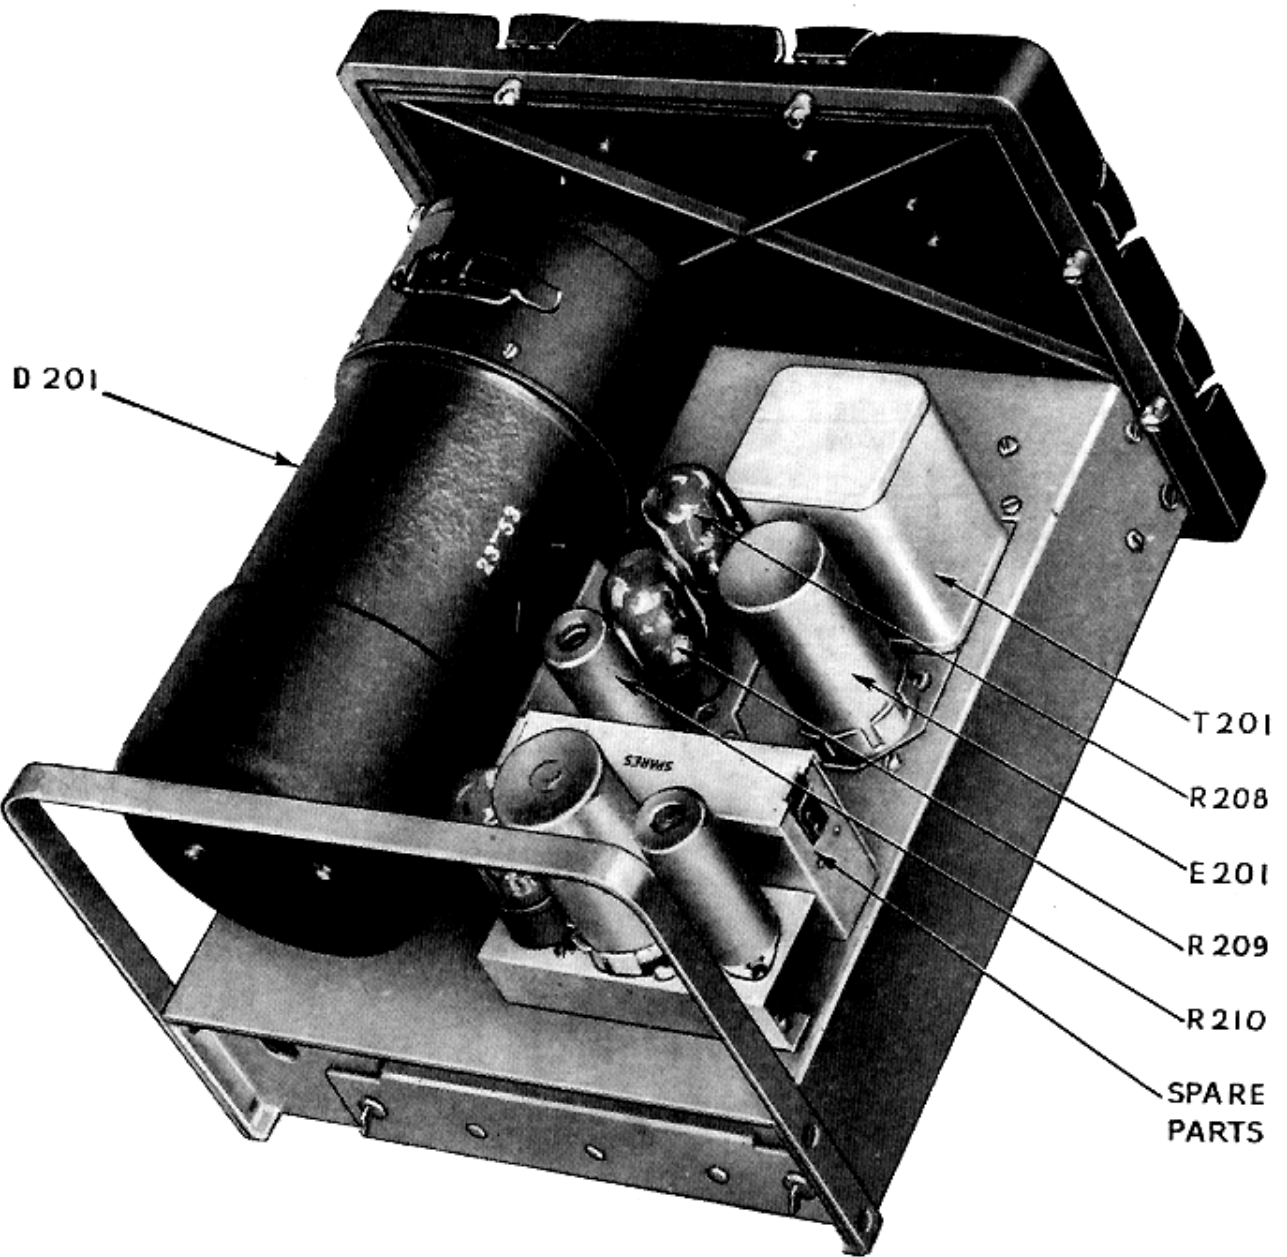

Figure 122.1. Dynamotor-Power Supply DY-88/GRC-9, cover removed, top view.
(1) Vibrator E201 and ballast tubes R208, R209, and R210 are located on the upper side of the chassis (fig. 122.1). E201, R208, and R209 can be removed without further disassembly. R210 is shielded by E207. The shield is removed by twisting it in a counter-clockwise direction and then pulling it straight up off the tube. R210 then can be removed without difficulty.
11. No voltage at terminals 22, 23, and 33. Control (E) in STAND BY position.	11a. K203 relay coil open. b. Ballast resistor R210 is open.	11a. Check K203 coil for continuity. b. Replace ballast resistor R210.
12. No voltage at terminals 20, 32, and 34. Control (E) in SEND position. Dynamotor does not run.	12a. Fuse F201 is open. b. K201 relay coil open. c. Contacts 11 and 12 of K202 are open. d. K202 relay coil is open.	12a. Replace fuse F201. b. Check K201 coil for continuity. c. Replace K202 if defective. d. Check continuity of K202 coil.
13. No voltage at terminal 21 with control (E) in SEND position. No voltage at terminal 33 with control (E) in STANDBY position.	13a. Vibrator E201 is defective.	13a. Replace vibrator E201.
14. Fuse F201 keeps blowing control (E) in SEND position.	14a. Capacitor C202, C203, C204, C205, C207, C206, C209, C210, C211 shorted. b. Fuse F201 not the correct value for the voltage used.	14a. Check for shorted capacitor and replace. b. Replace fuse F201 as follows : 30 amp for 6-volt operation, 20 amp for 12-volt operation, and 10 amp for 24-volt operation.
**Page 158. Fig. 122.** Insert figures 122.1 and 122.2, after figure 122.
- b. Remove the four screws holding each of the two access covers (fig. 122.1) to the dynamotor. The 12-and 24-volt brushes now are accessible.